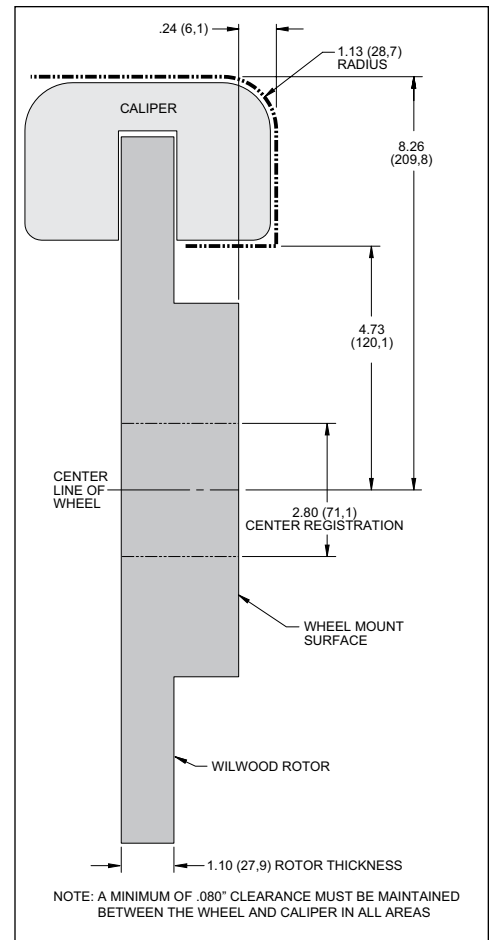

Figure 3. Wheel Clearance Diagram
• Verify your wheel clearance using Figure 3.